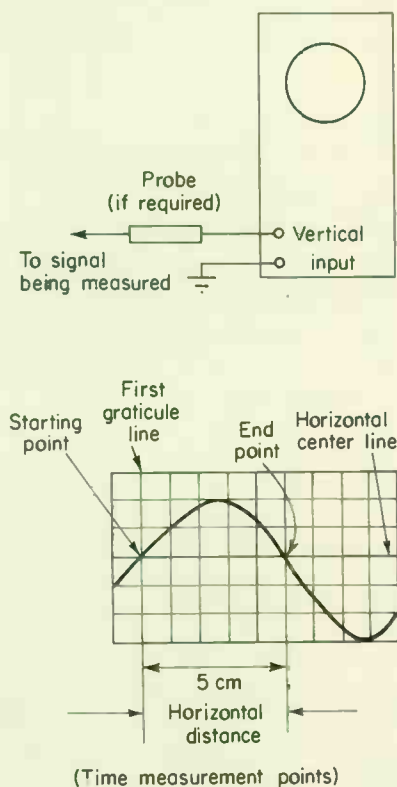

Fig. 7-1. Measuring time duration.
1. Connect the equipment as shown in Fig. 7-1.
5. Switch on the oscilloscope internal recurrent sweep. Set the horizontal sweep control to the fastest sweep rate that will display a convenient number of divisions between the time measurement points (Fig. 7-1).
8. Measure the horizontal distance between the time measurement points (Fig. 7-1).
*Example:* Assume that the distance between the time measurement points is 5 cm (Fig. 7-1), the horizontal sweep control is set to 0.1 millisecond/cm, and there is no sweep magnification.